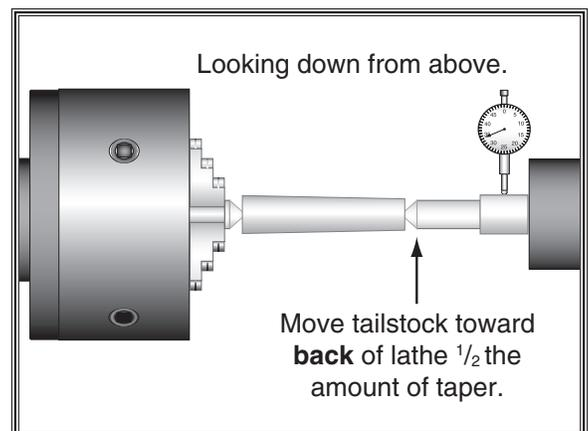

Figure 18. Adjusting for headstock end taper.
6. Mount a dial indicator so that the plunger is on the tailstock barrel (**Figure 18**).
7. Measure the stock with a micrometer. If the stock is wider at the tailstock end, the tailstock needs to be moved toward the cutter the amount of the taper (**Figure 18**).